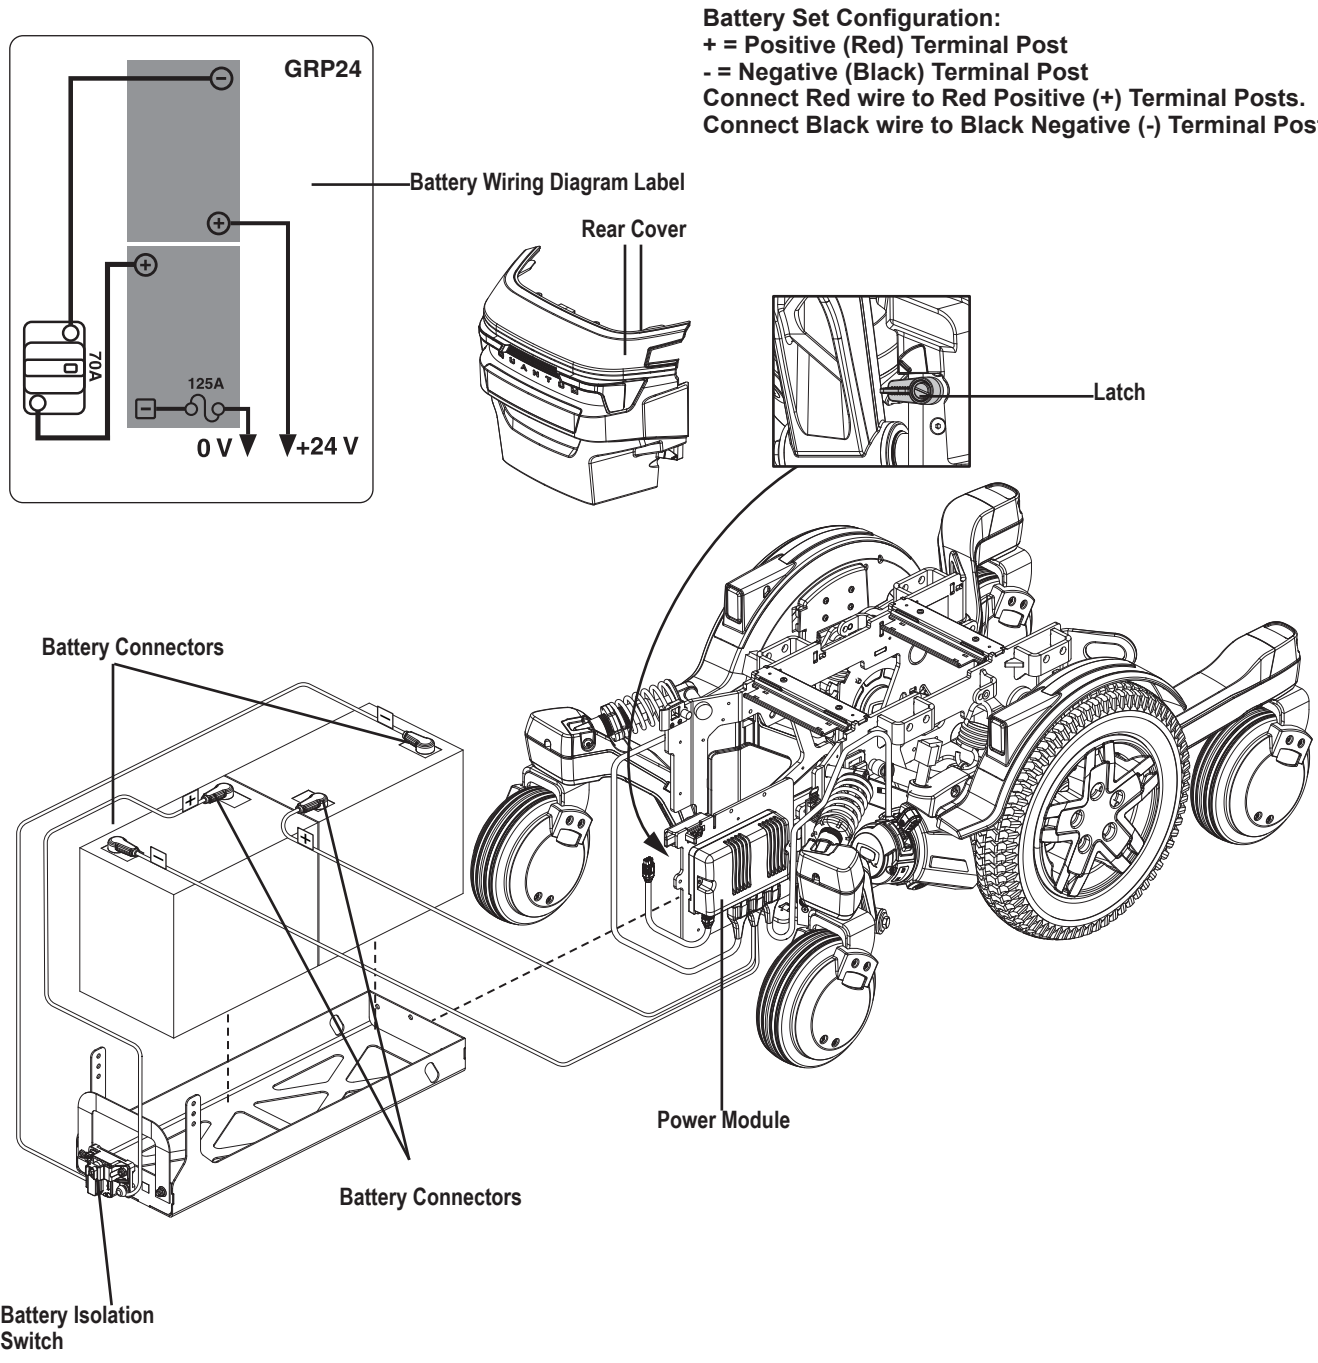

Figure 14. Group 24 Battery Installation
3. Remove the rear shroud by rotating the two (2) yellow clips out toward the drive wheels. Lift the rear cover up and away from the power base.
10. Remove all of the harnessing off the rear battery. Once all harnessing is removed from the battery remove the battery from the tray. See Figure 14.
11. Once the first battery is removed slide the second battery towards the rear of the tray. Repeat the above steps for the second battery. See Figure 14.
13. Connect the battery harness to the new batteries according to the battery wiring diagram. See figure 14.